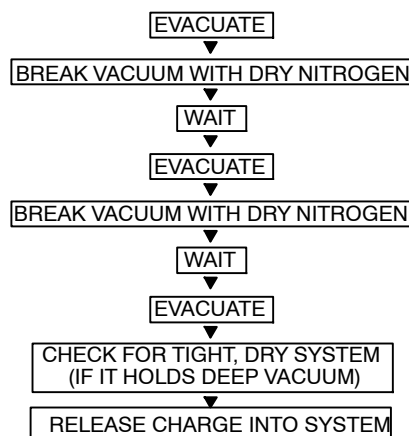

Fig. 17 – Triple Evacuation Method
The triple evacuation method should only be used when vacuum pump is only capable of pumping down to 28 in. of mercury vacuum and system does not contain any liquid water. Refer to Fig. 17 and proceed as follows:
5. Repeat this procedure as indicated in Fig. 17. System will then be free of any contaminants and water vapor.